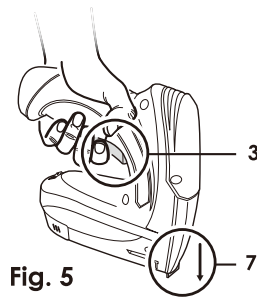

Fig. 5
Squeeze the Trigger (3) to deliver a staple into work surface. (Fig.5)